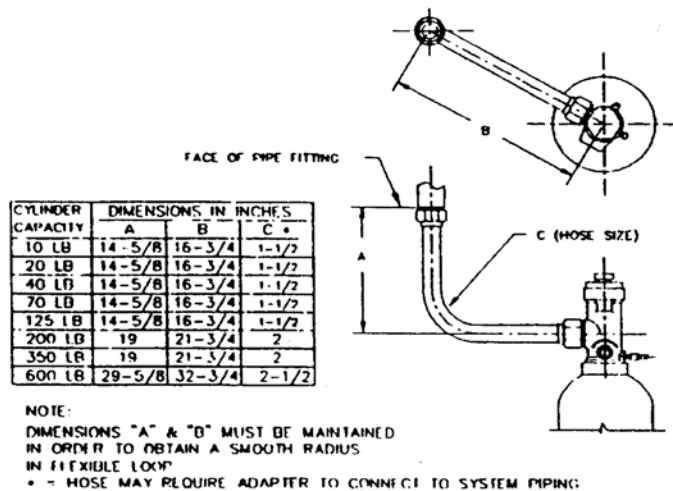

Figure 4.9.1 - Installation of the Flexible Hose Directly into System Piping
4.9 Installation of Flexible Discharge Hose. Attach flexible discharge hose from system piping or EL-check in discharge manifold to cylinder valve. Tighten securely. See Figure 4.9.1